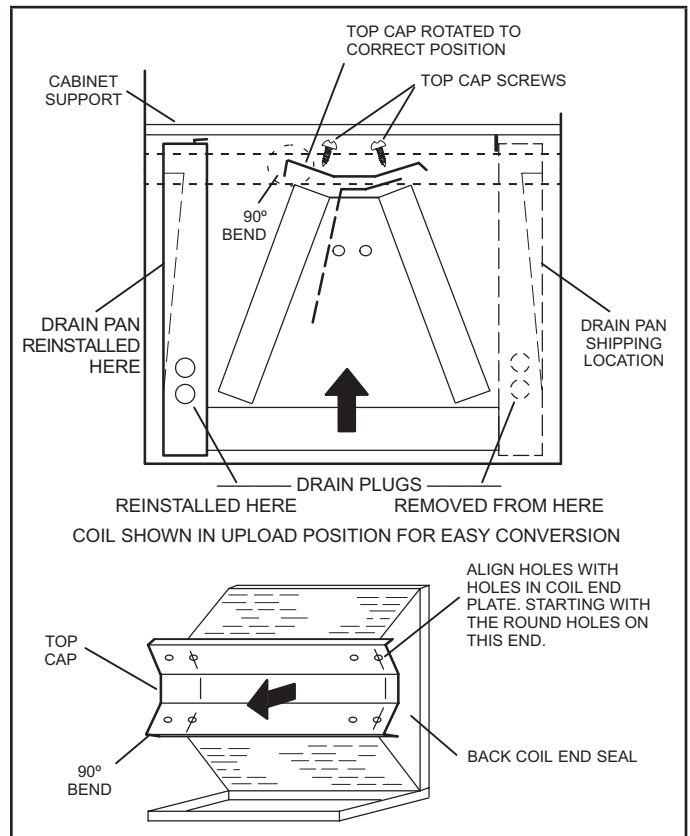

FIGURE 8. Field Modification for Left-Hand Discharge
- 7 - Rotate top cap 180° front-to-back and align with unused screw holes. Holes must align with front and back coil end plates. The top cap has a 45° bend on one side and a 90° bend on the other. **The 90° bend must be on the same side as the horizontal drain pan** as illustrated in figure 8.